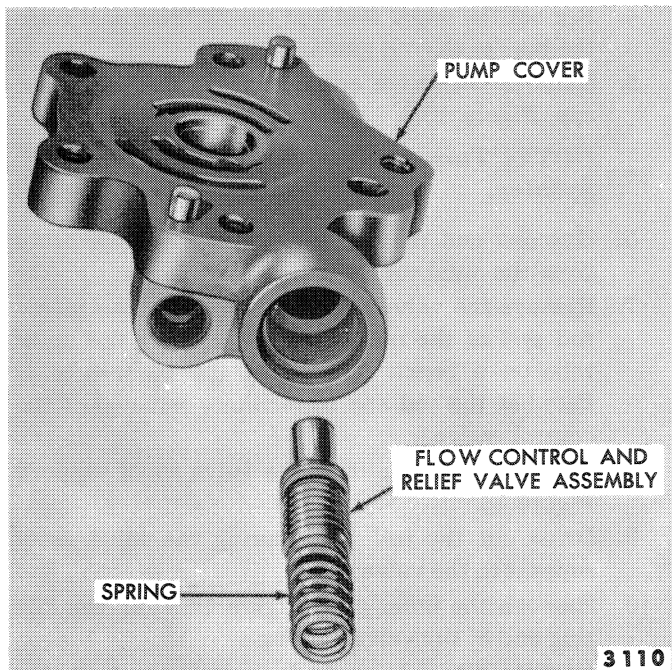

Figure 8—Installing Pump Flow Control Valve
A spool-type, spring-loaded flow control valve, Figure 8, mounted in the bore of the pump cover, is designed to limit oil flow to a maximum of 9.5 gallons per minute. The control valve, which is hollow and closed at one end, has metered holes located in the valve grooves. Whenever pump volume is greater than is permitted by the metered holes, a pressure is built up at the back of the valve. This forces the valve toward the pump intake port and relieves the excess volume.
5. Assemble the spring to the flow control valve and insert the valve in its bore so that the valve extension enters first, Figure 8. Make sure the valve does not stick. Using a new "O" ring, install the valve retainer and tighten it to 30-35 ft. lbs. torque.